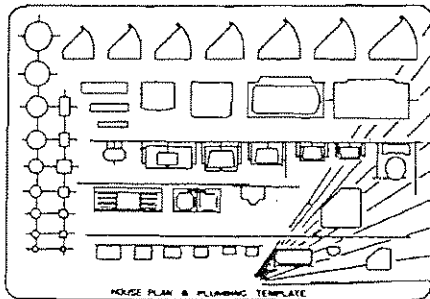

Fig. 4 Use an architectural template for the drawing of symbols
1. Always use drawing instruments. Never draw the symbols freehand on a working drawing. Use an architectural drawing template to increase the speed and clarity of the symbols (Fig. 4 ). Be certain that the template figures are the same scale as your drawing's scale.